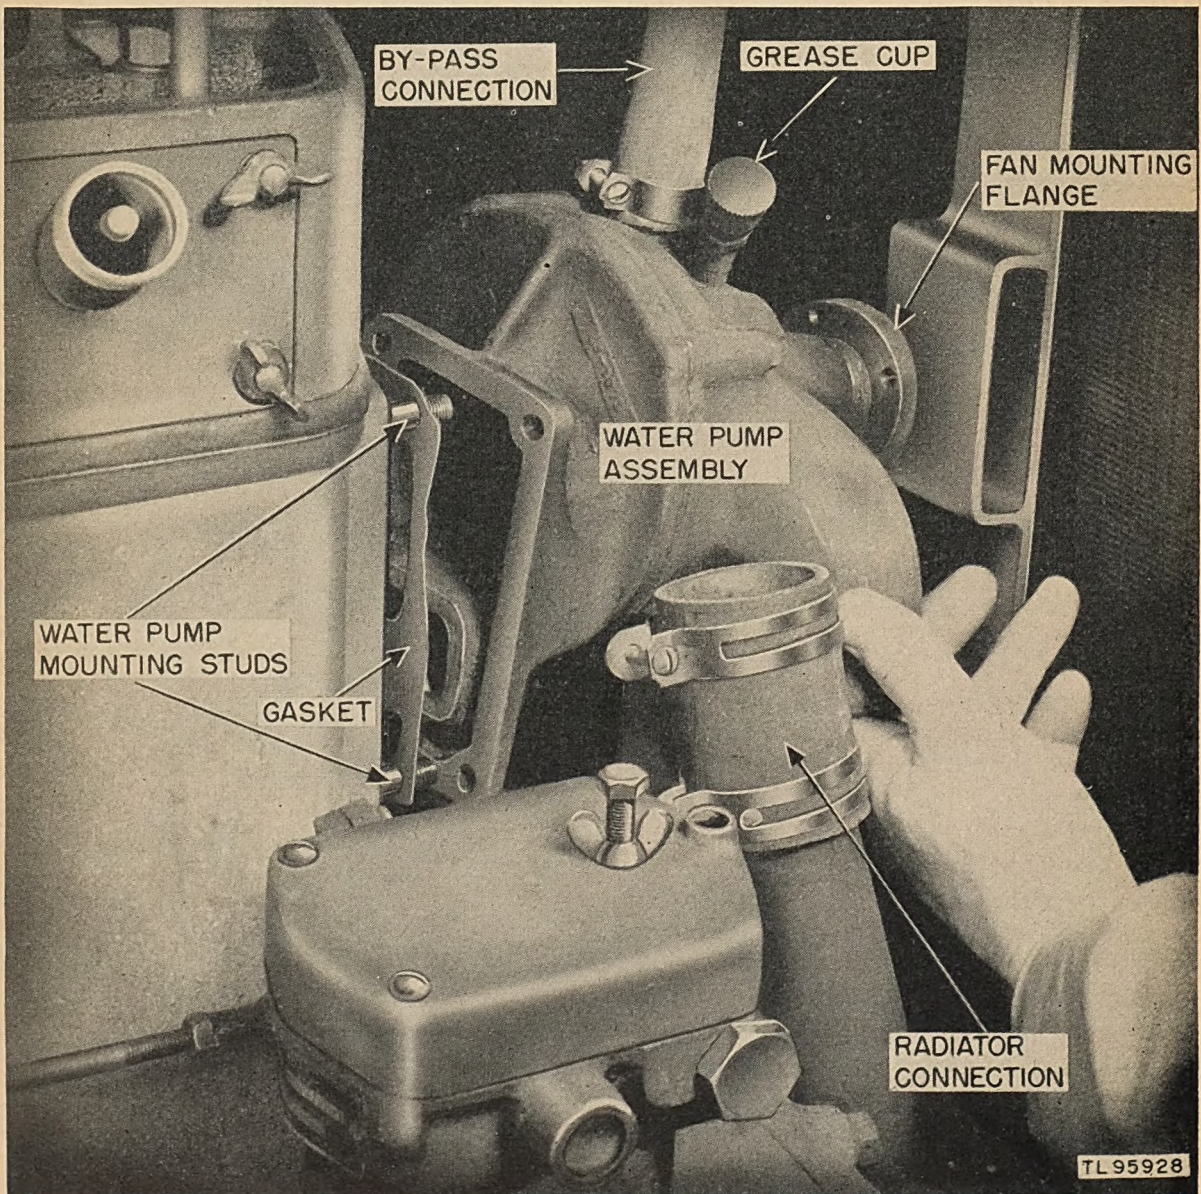

Fig. 18.1. Replacing Water Pump.
10. (Superseded) Fan and Water Pump (fig. 18.1).